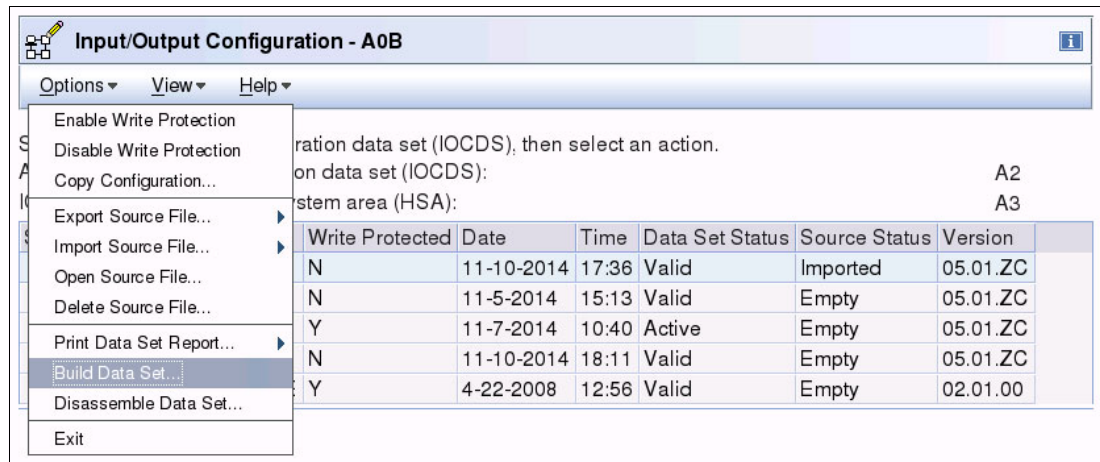

Figure 8-124 HMC - SAIOCP: building the IOCDS
15. Click **Options** → **Build Data Set** (Figure 8-124).